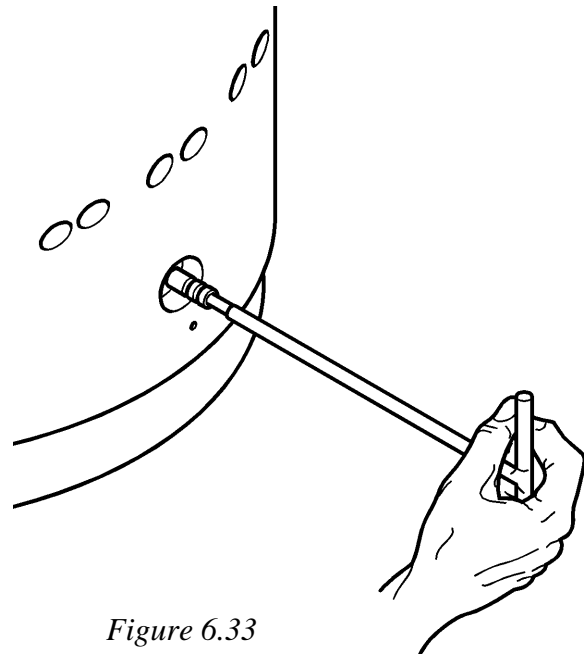

Figure 6.33
- The small ram will probably get out with the valve body; if this not, extract it (fig. 6.33) by pulling spanner (09.040.0) after screwing its threaded end on small ram.